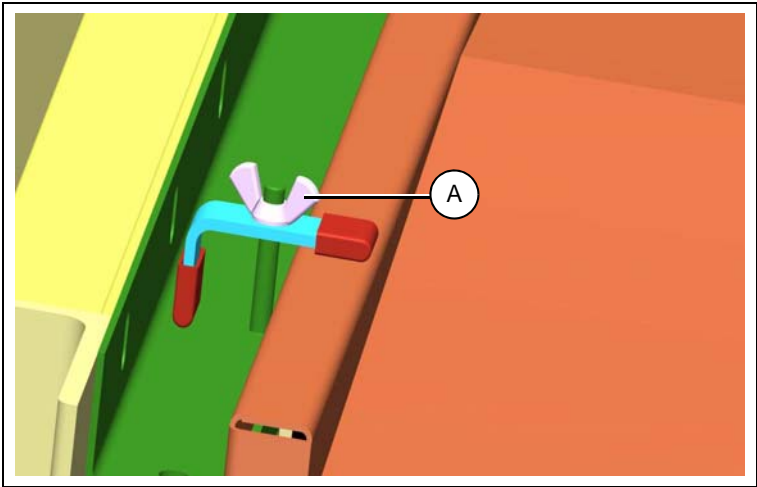

Figure 4F
1. Fasten covers to the belt conveyor with the 3/8" easy grip handles provided. Adequately tighten the 3/8" handles so that the covers are in tight contact with conveyor cross channels. (See Figure 4F.)